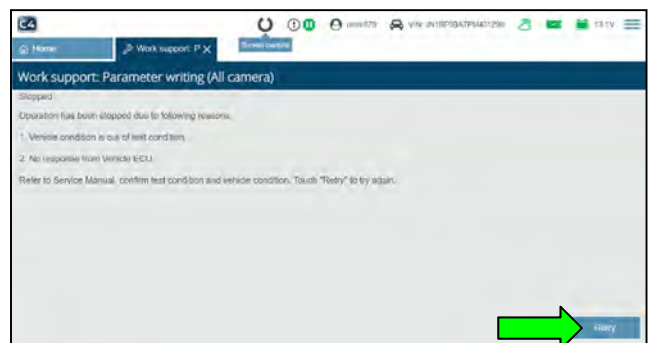

Figure 10
- If the **Parameter writing** was not successful (Figure 10):